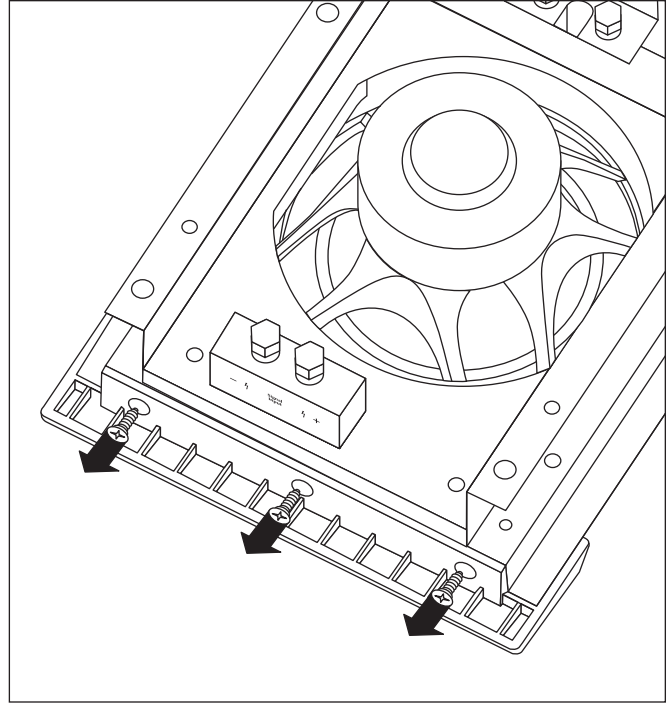

Figure 15. Removing the end caps step 3.
- 3 Using a Phillips head screwdriver remove three screws from the bottom edge of the Passage (see figure 15).